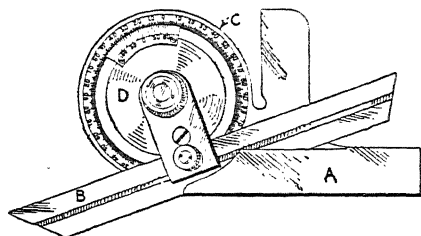

FIG. 166.—Brown & Sharpe bevel protractor. The vernier reading of this protractor is explained in the Appendix, page 361.
**185. The Bevel Protractor.**—The instrument used in machine shops for measuring angles is called the bevel protractor (Figs. 166 and 167).